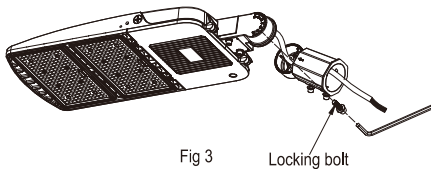
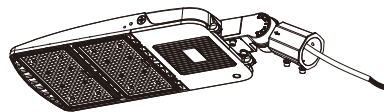

Fig 3
Fig 4
Step 3 : Pass the fixture's input wires through the lamp holder and lock it, as fig 3 and fig 4